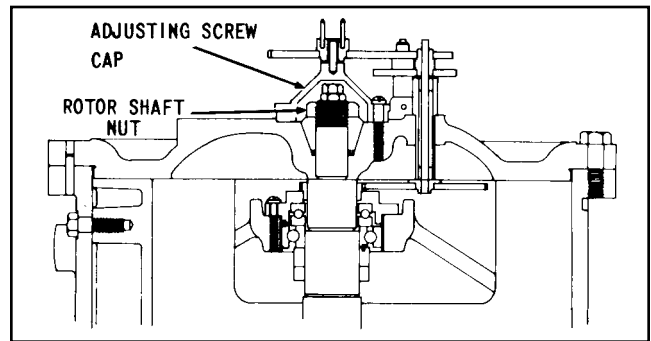

Figure 16
**JA 10 Meters Only:** Do not attempt to remove the inner mechanism cover before taking off the adjusting screw cap and rotor shaft nut and shaft collar. Figure 16. Failure to remove the upper shaft nut will result in breakage of the meter cover or base.